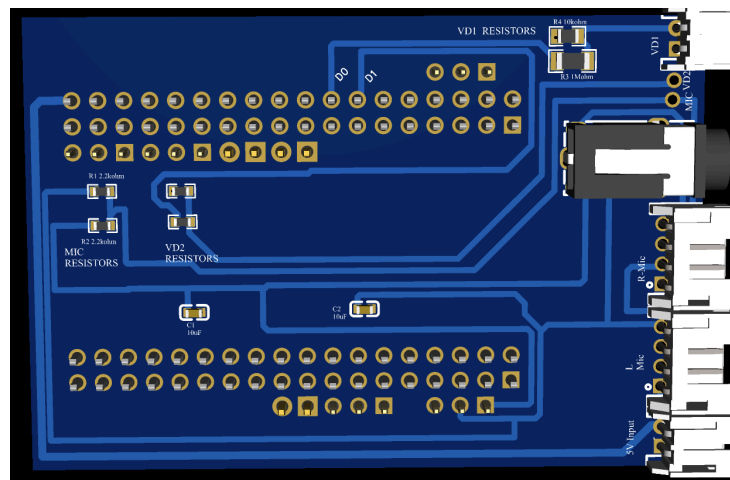

Fig.2: 3D view of Bela Cape
This is Board **2 of 4**. It is the audio heart of the system, running on a BeagleBone single-board computer. The PCB image shown in Fig.2 (3D view) is this board.
11. Verify that the preassembled Bela PCB looks exactly as in Fig.2.